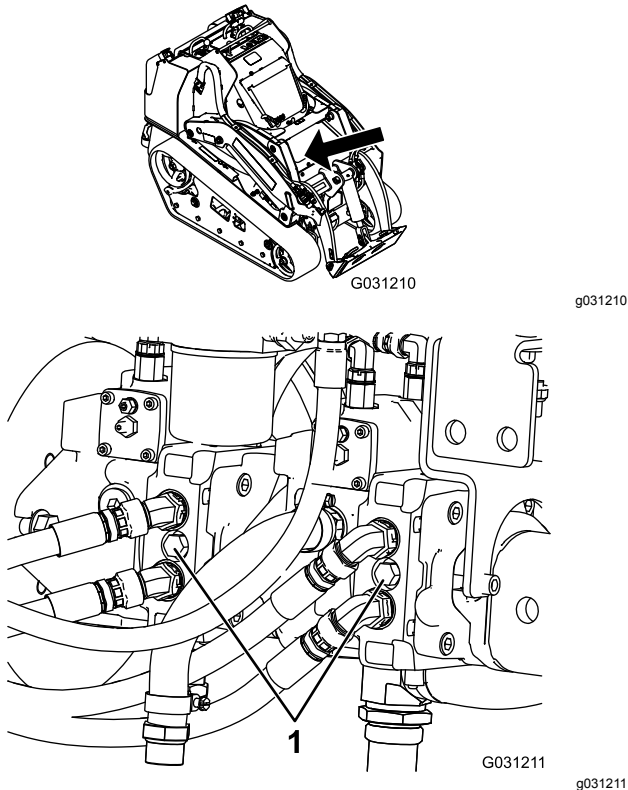

Figure 26
- Using a wrench, turn the tow valves on the hydraulic pumps twice counterclockwise (Figure 26).